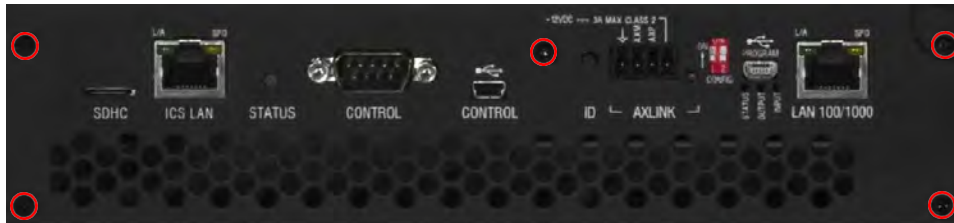

FIG. 171 Remove screws that hold faceplate
3. Remove the screws from CPU faceplate per the locations indicated in FIG. 171 (four screws in Enova DGX 6400, three screws in Enova DGX 800/1600/3200).